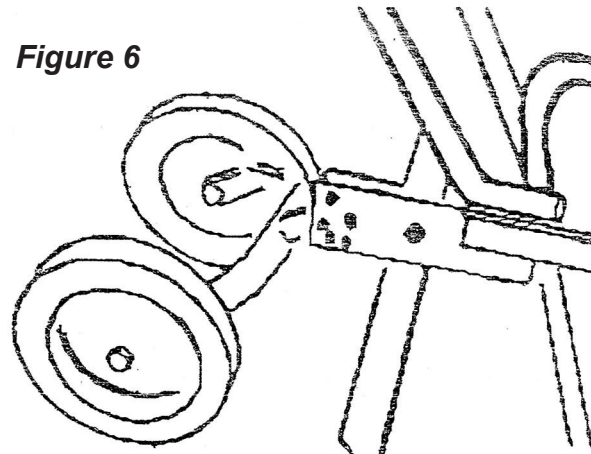

Figure 6
1. When ground is hard (especially during spring and fall plowing), place wheels in up position by removing the clevis pin from the wheel clevis, and repositioning the wheel frame bar. Replace the clevis pin and the pin clip (Figure 6). For weeding or cultivating, wheels may be left down if you prefer.